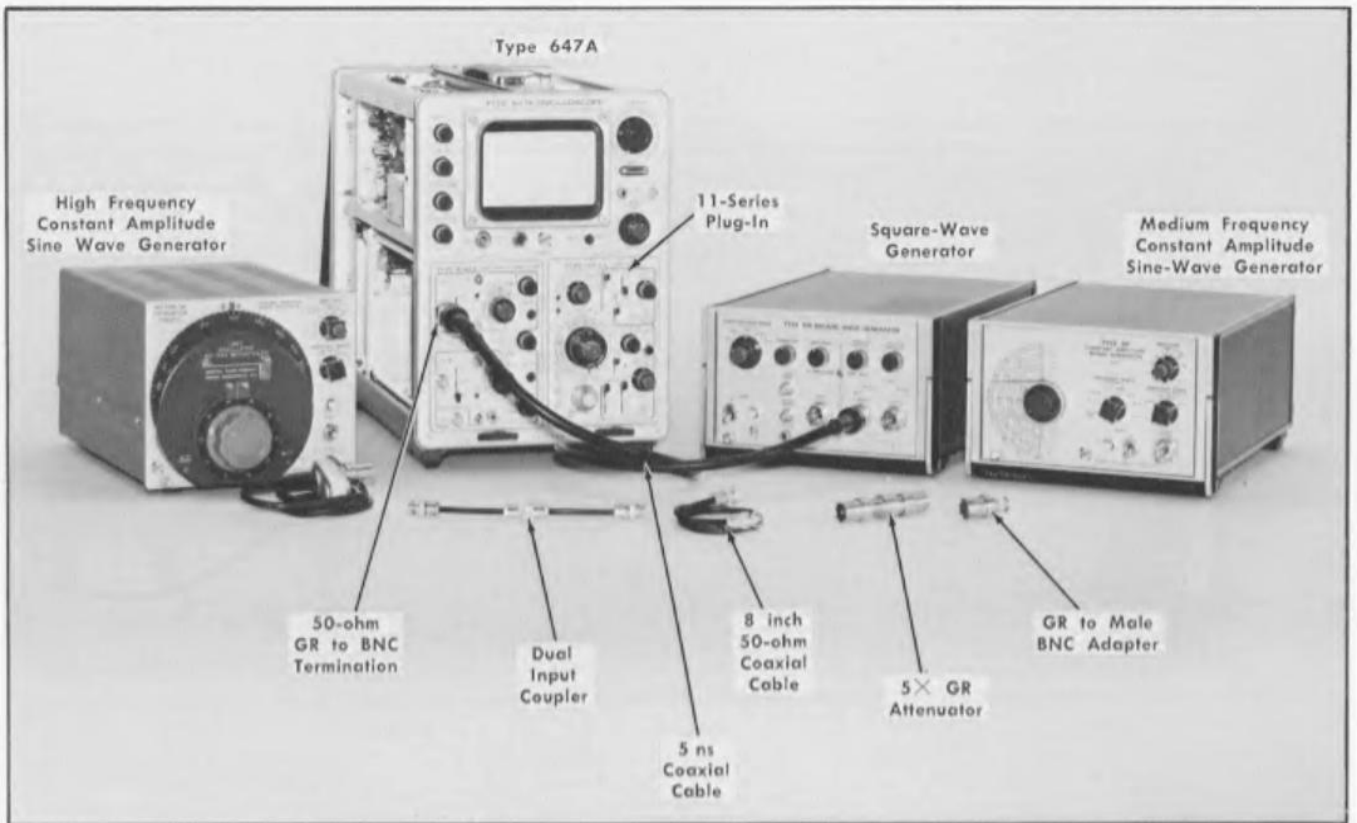

Fig. 6-11. Initial test equipment setup for steps 25 through 30.
- b. Test equipment setup is shown in Fig. 6-11.